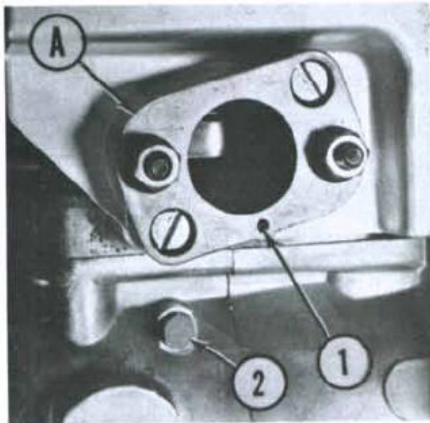
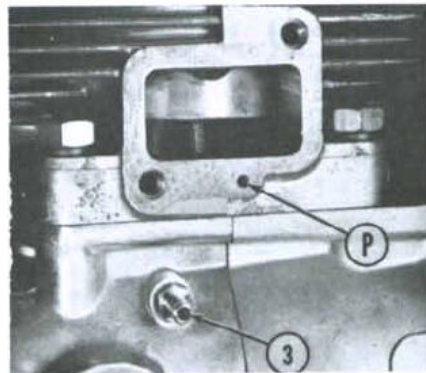

Fig. 1—Carburetor adapter flange of the type equipped with internal pulse passage for fuel pump operation. External passage port must be plugged as shown.
Fig. 3—Intake port of cylinder with adapter flange removed, showing the drilled pulse passage (P). Refer to Figs. 1 & 2 for assembled options.
Refer also to Figs. 1 through 4 for views of pulse passages and induction ports. Internal pulse passage (1—Fig. 1 and P—Fig. 3 & 4) is not present in all engines. The tapped hole for plug (2—Fig. 1 or 3—Fig. 2 & 3) is always present. If internal pulse passage (P) is present and used, hole in gaskets, cylinder shield, adapter flange and carburetor must be open and aligned and plug (2—Fig. 1) must be installed.
Fig. 2—Carburetor adapter flange (B) is type not equipped with internal pulse passage. Fitting (3) in external passage port operates fuel pump. Refer also to Figs. 1 and 3.